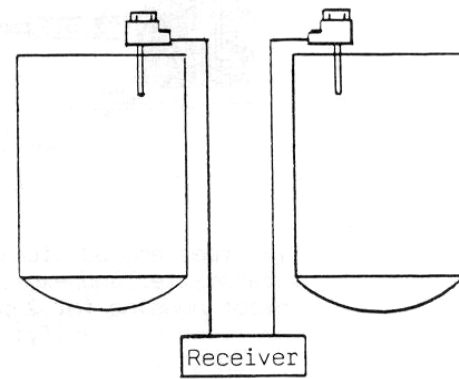

Fig 2A
2. Control 2 separate probes in the same tank and maintain a level between them. (Fig 2A)